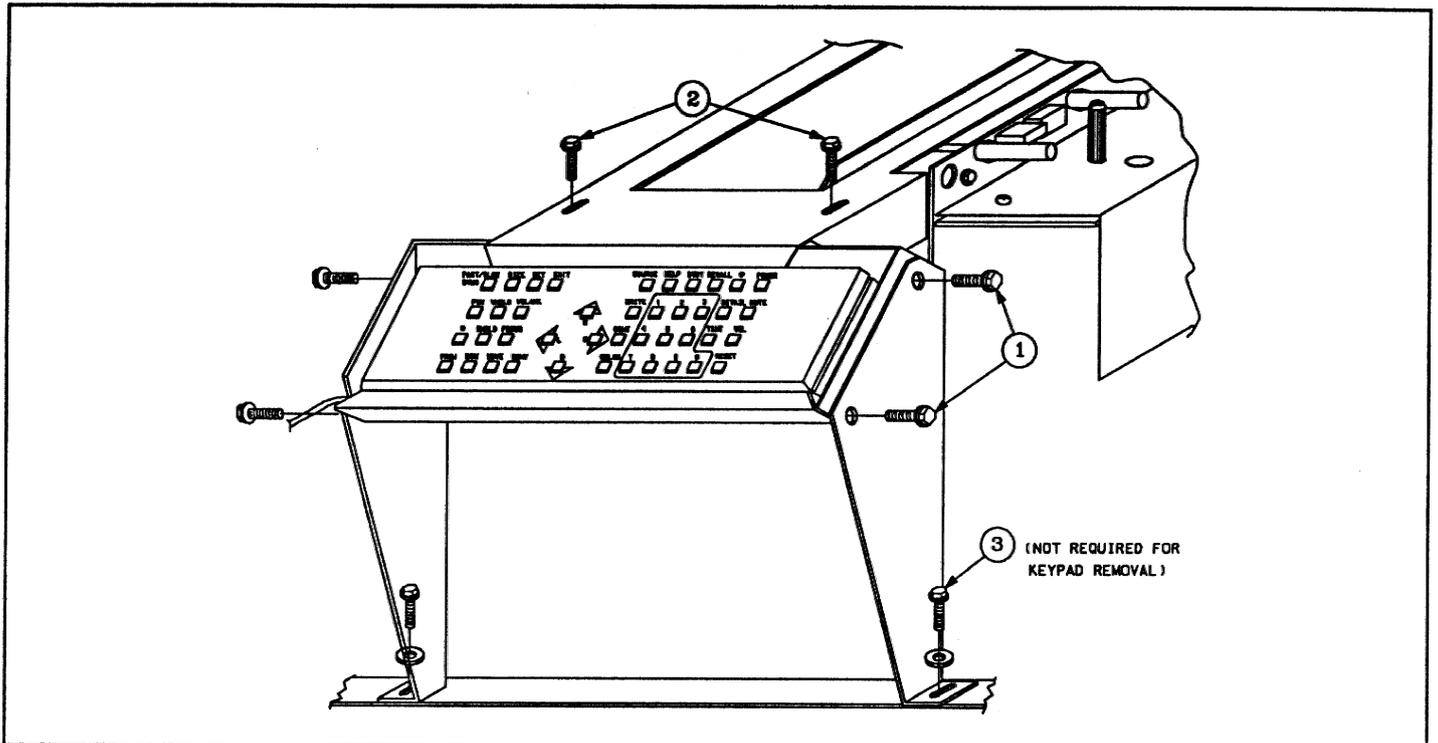

FIGURE 5-11. Keypad Removal
- d) Remove the 4 hex head screws which secure the keypad holder to the side brackets. See Figure 5-11, item 1.
- e) Remove the top 2 hex head screws which secure the keypad holder to the top bracket as shown (item 2).
- g) If the keypad side brackets must also be removed for ease in accessibility to other modules, remove the 2 side bracket mounting screws (item 3).
- NOTE:** Item 3 in Figure 5-11 does not require removal if only the keypad is to be removed.